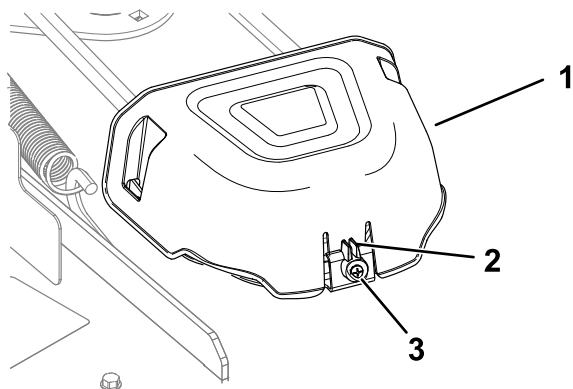

Figure 1
4. Loosen the screw and push in the tab on the cover to remove the pulley covers (Figure 1).